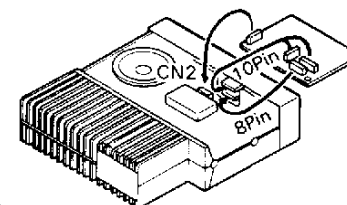
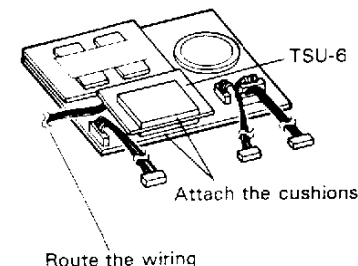

Fig. 3
Fig. 4
2. Attach the three cables from the DRU-1 in the transceiver as shown in Fig. 3. Don't forget to attach the TSU-6 as shown if you are installing this unit at the same time (Fig. 4).